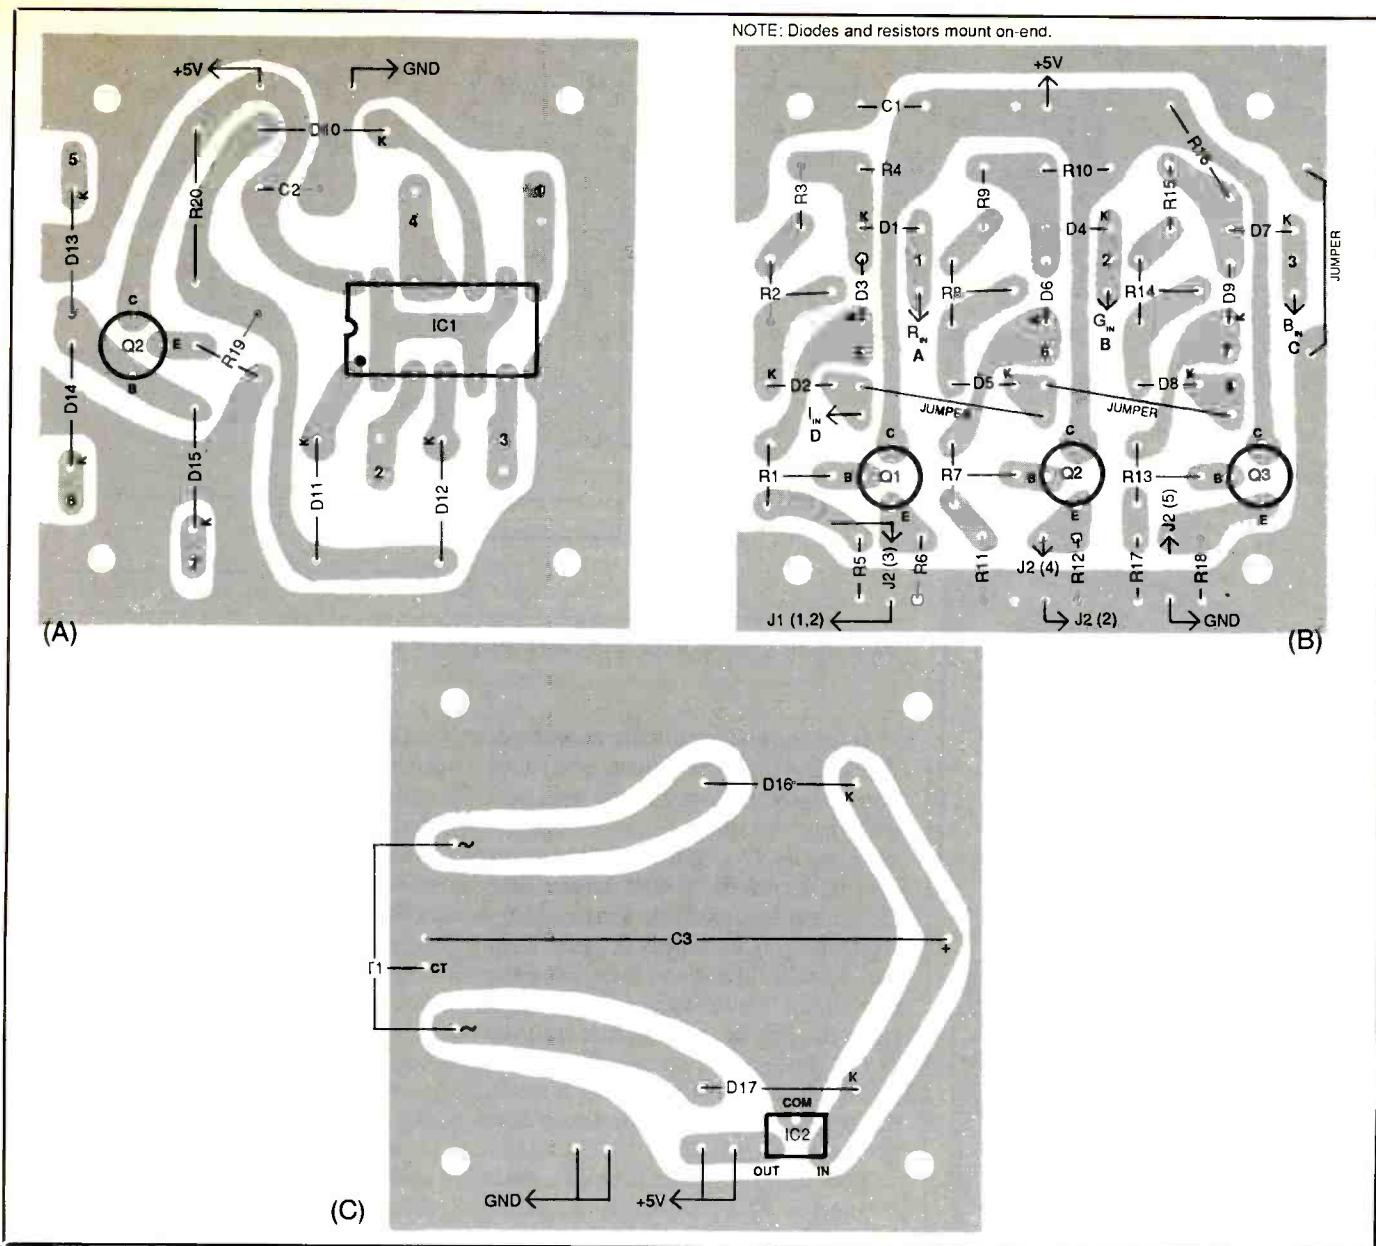

Fig. 4. Wiring guides for (A) RGBI, (B) gray-logic and (C) power-supply boards.
guides shown in Fig. 4 for component installation.
together the fine conductors at both ends and sparingly tin with solder. Plug one end of 13 of these wires into all *numbered* holes in RGBI board (A) in Fig. 4 and solder into place. When you're done, the only holes still vacant on this board should be those labeled R_{in} , G_{in} and B_{in} , into which you should plug solder posts and solder them into place.
Plug the free ends of the +V and GND wires coming from the RGBI board into the same-numbered holes in power-supply board (C) in Fig. 4. Solder both connections. Set aside this assembly.
Plug the free ends of the wires coming from the RGBI board into the same numbered holes in gray-logic (B) and power-supply (C) boards in Fig. 4 and solder into place. Plug the secondary center-tap wire coming from the power transformer into the T1 C.T. hole and two remaining secondary leads into the T1 SEC. holes in the power supply board, and solder the connections.